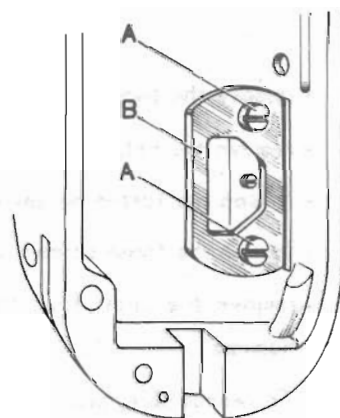

Fig. 24
- loosen and remove the two screws **A** (Fig.24) and take off plate **B** which serves as a guide to the knee-link. Pay attention to keep the spacing washers separate, which are found between the plate and the arm.